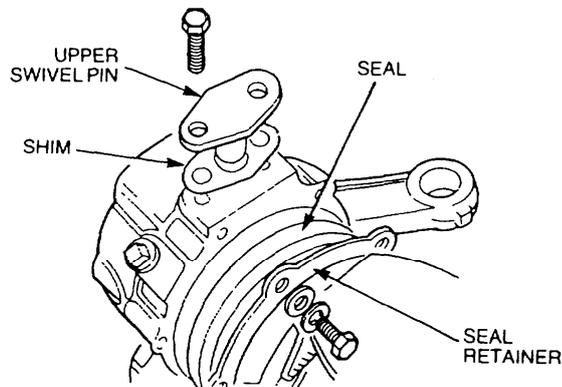

Figure 113 Swivel Housing Oil Seal Removal
- g. Remove the two bolts and washers retaining the upper swivel pin, the hose retaining bracket and the shims (Figure 113).